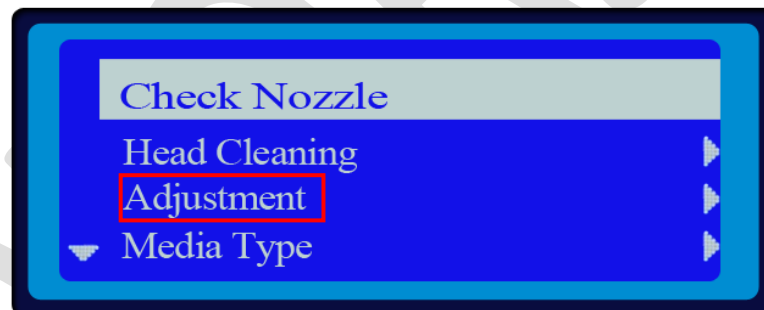

Fig 24: Selecting the Media Type Option
2. Select the **Adjustment** option from the menu list (Refer to Fig 24). It's related sub-options viz. **Feed Calibration** and **Bi-Dir** appears on the screen as shown below: